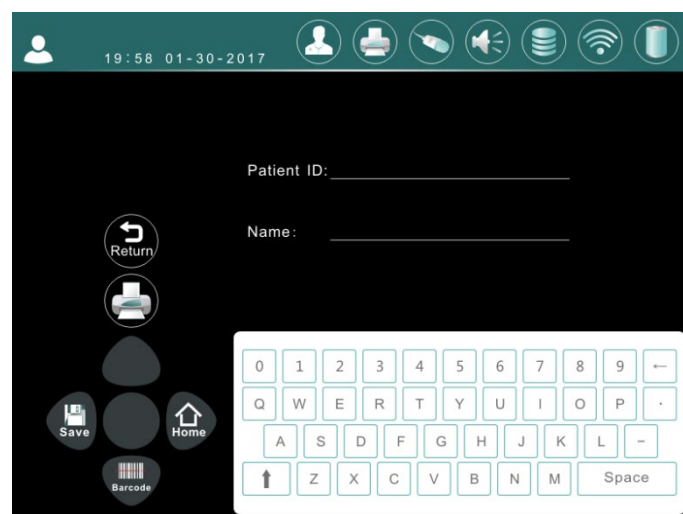

Figure 7-13 Save & Edit Interface
7.9.1 Figure 7-13 is the save/ edit interface